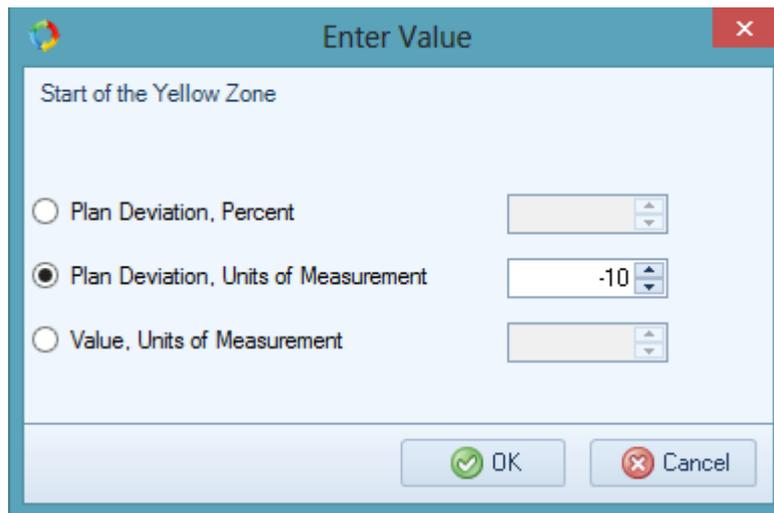

Fig. 20. Setting breakpoint
- Type the number located on the border of yellow and red color in the **Color** line. In the appeared window click on the **Plan Deviation, Units of Measurement**. It shows possible range of deviation from the **Plan Value**. If the **Fact Value** falls beyond this critical value, the scale will be colored red. Set the value to -10. For us it is the upper limit of the critical zone. Thus, in case the KPI fact value will be lower than planned by 10 points (percentage, in our case), the situation will be considered as intolerable and will require additional actions to resolve it (Fig. 20).